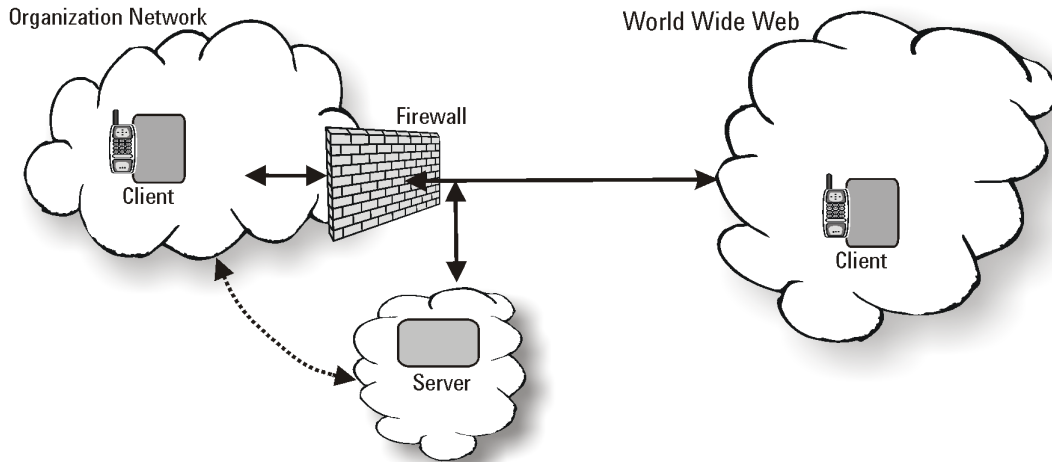

Figure 7 Location 3 - server located next to the firewall
- Location 3 – the data server system is located on, or near the firewall, with virtual links back to the organization network. Refer to Figure 7. These links provide data server support from behind the firewall.